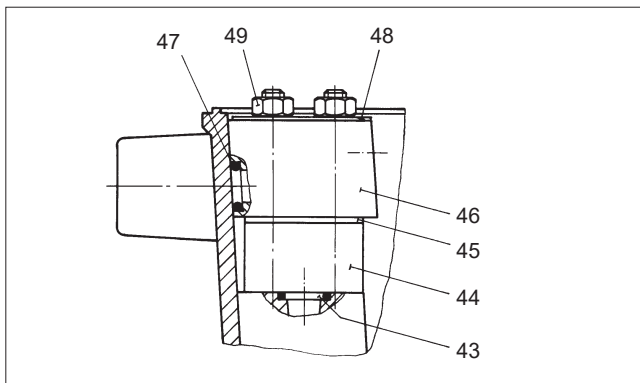

Fig. 9. Mounting the changeover piece
The figures marked on the cam plate (29) are the signal ranges expressed as percentages, for example 0–100 corresponds to 4–20 mA, or 50–100 to 12–20 mA. See Fig. 9.